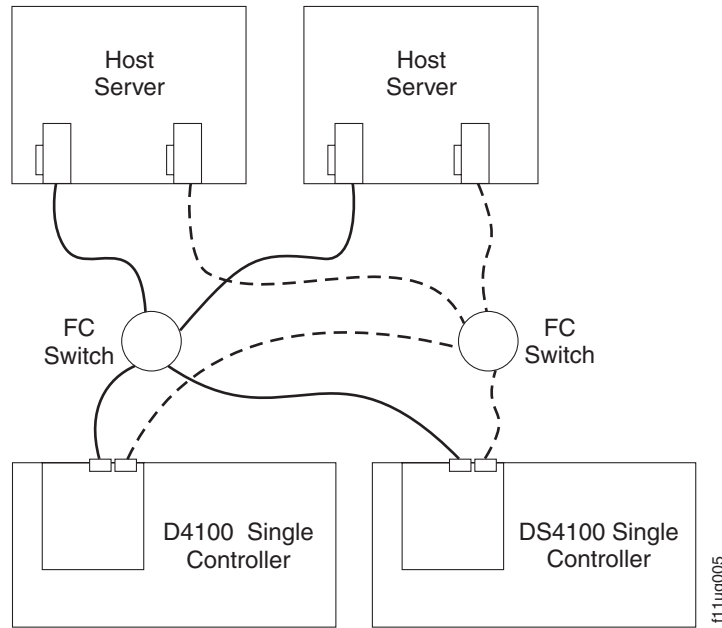

Figure 32. Example of a dual-server, single-SAN fabric configuration with two adapters on each server (single-controller storage subsystem)
- Dual-server, single-SAN fabric configuration with two adapters on each server, as shown in Figure 32 on page 45